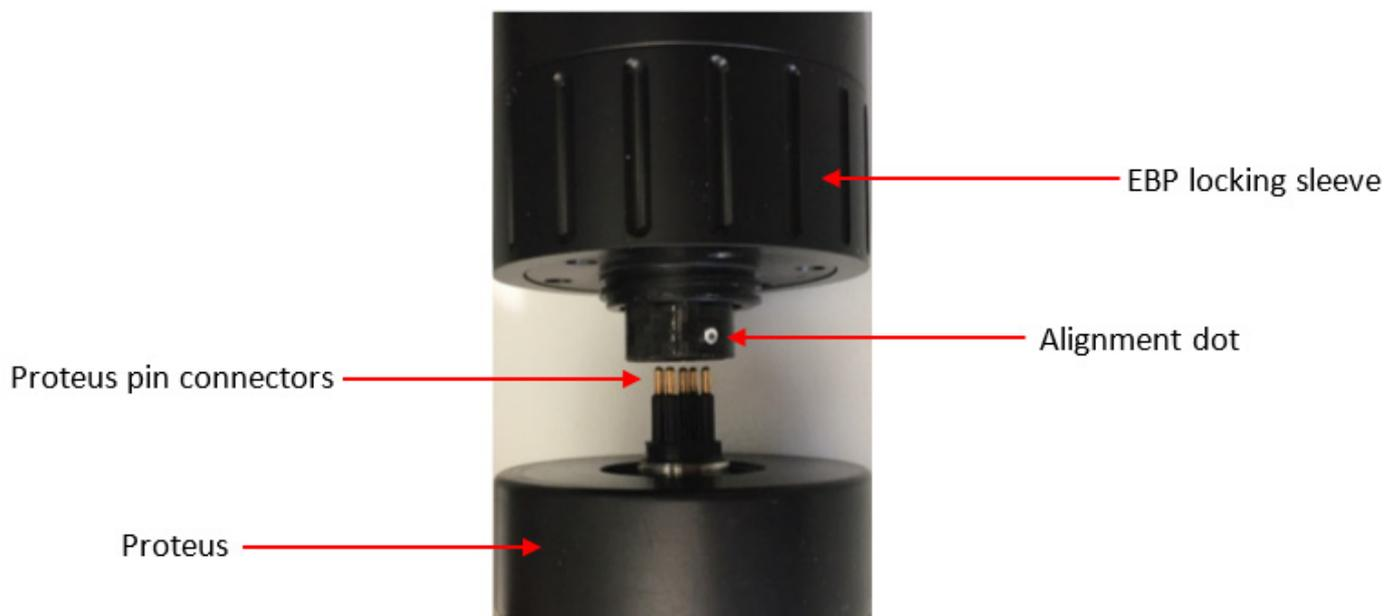

Figure 33: Connection of an EBP to a Proteus probe.
2. Once in place, grasp the EBP locking sleeve (Figure 33) and the Proteus, and rotate the locking sleeve and it will screw into place, creating a water tight seal.